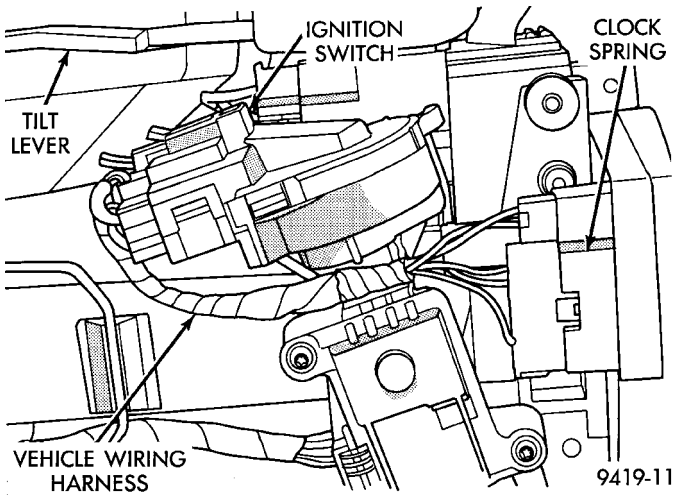

Fig. 19 Steering Column Wiring Connections
(22) Remove the vehicle wiring harness connectors from the ignition switch and clock spring (Fig. 19).
(1) Install steering column into steering column access opening in lower instrument panel.
(2) Install the vehicle wiring harness connectors, into the ignition switch and clock spring assembly (Fig. 19).